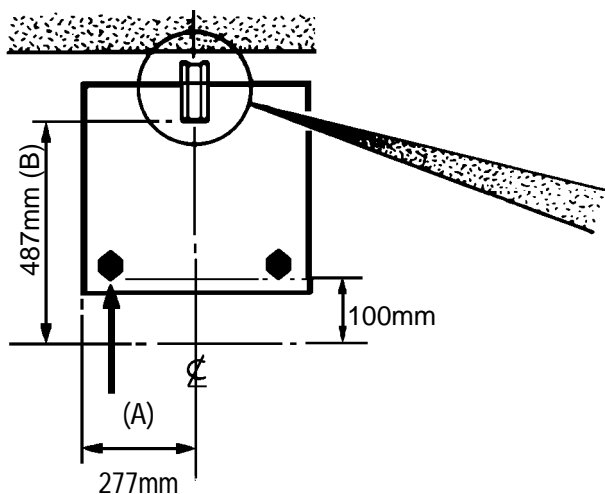
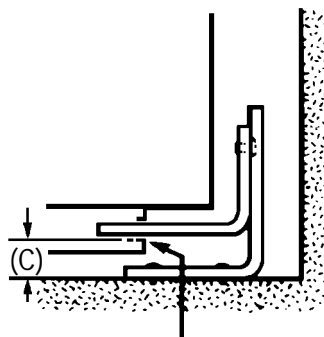

Fig.2a
Fig.2b
2. Mark off 277mm from the left hand side of the appliance as shown in dimension 'A', Fig.2a. This is the centre line of the fixing bracket.
3. Draw a line 100mm from the front edge of the levelling feet (see Fig.2a) and remove appliance from its position. Mark off dimension 'B' (see Fig.2a) back from this line on the centre line of the bracket to locate the front edge of the lower bracket. Fix lower bracket (with two fixing holes) to the floor then measure the height from floor level to engagement edge on back of appliance, dimension 'C' of Fig.2b.
4. Assemble upper bracket to lower bracket so that underside of bracket is dimension 'C' +3mm above floor level. (see Fig.2b).
Reposition appliance and check that top bracket engages into appliance back as shown in Fig.2b.